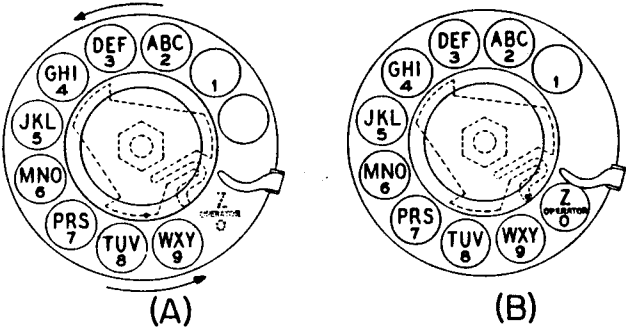

Fig. 11 — Placing Plastic Fingerwheels
4. Place fingerwheel over clamp with 0 hole directly on digit 9, making sure fingerwheel depressions are properly positioned on prongs of clamp plate, as shown in Fig. 11 (A).
5. Rotate fingerwheel in counterclockwise direction until clamp spring snaps into notch on underside of fingerwheel, as shown in Fig. 11 (B).